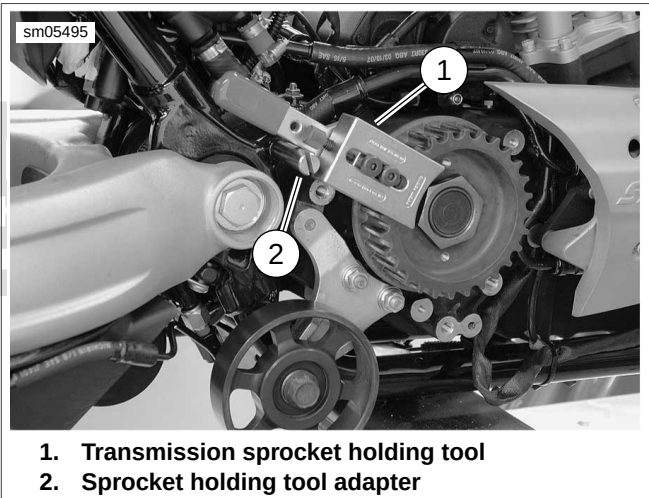

Figure 5-110. Sprocket Holding Tool and Adapter (Shown in Installation Position on XR Model)
- See Figure 5-110. On XR models and XL models without passenger footrests, install **SPROCKET HOLDING TOOL ADAPTER** (Part No. HD-46282-1A) into bottom footrest bracket hole in frame. Place handle of tool underneath adapter.
See Figure 5-110. On XR models, and XL models without passenger footrests, screw **SPROCKET HOLDING TOOL**